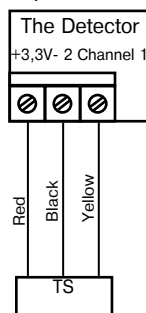

Figure 3 – The TS Hooking up to the Detector
6.2 If it is necessary to log the Detector in double-channel mode, switch TS to the Detector as shown in Figure 3 or short-circuit the terminals of the Detector «minus» and «Channel 2». For the single-channel mode neither switching on, no short-circuit is required.
Install the PCB and if it is necessary, hook up TS to the terminals in accordance with Figure 3. Put the cover on it's place.